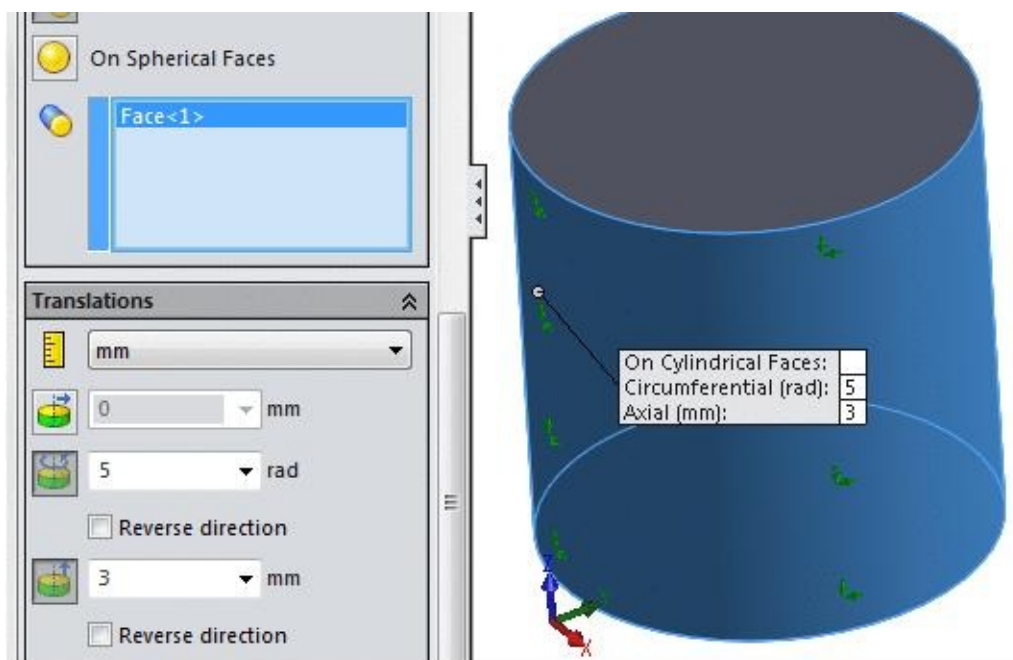

Figure-32. Preview of on cylindrical faces fixture
- Specify the distance/rotation limit for the body for the selected direction buttons. Refer to Figure-32.